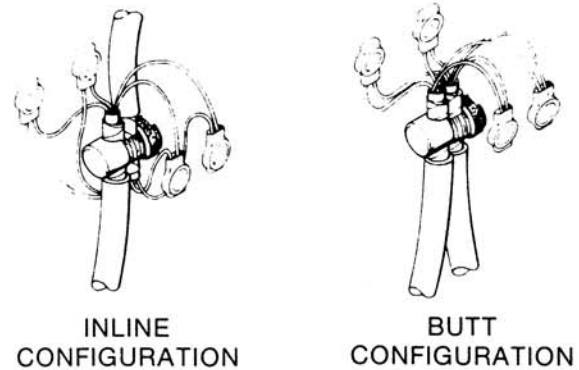

FIGURE 2
5. Attach Split Bolt to wire shields per Figure 2. Tighten securely.
6. Splice conductors per Figure 2.